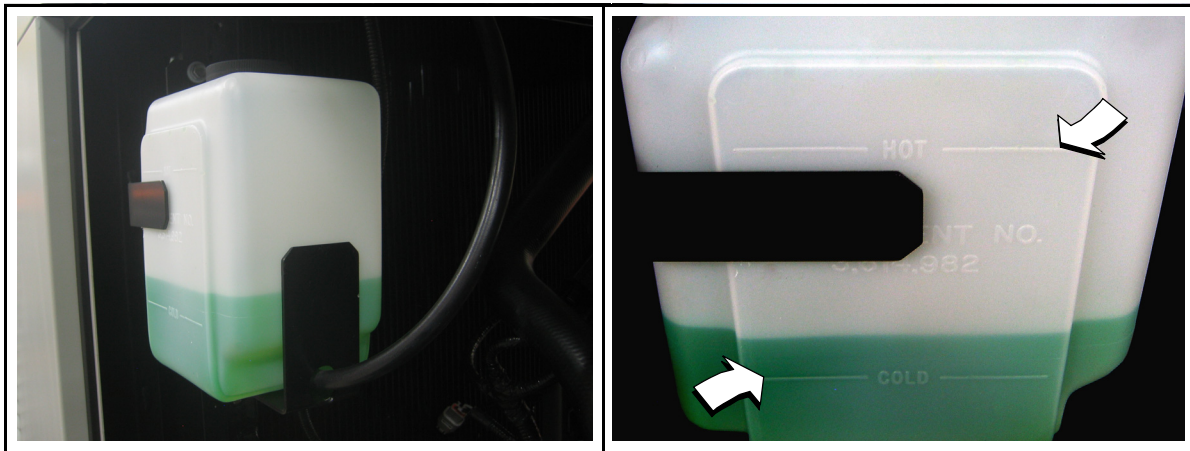

Figure 5-6. Coolant Overflow Reservoir
1. Verify that the coolant level is between the HOT and COLD marks on the overflow reservoir. See Figure 5-6.